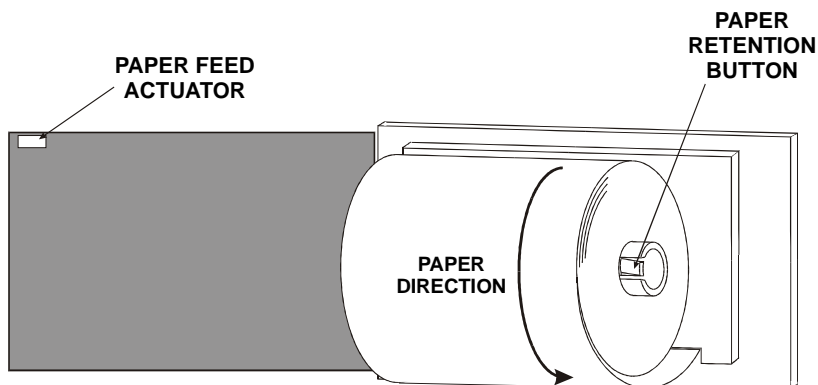

Figure A-1. Replacing the Printer Paper
2. Swing the printer door open. The printer paper roll is mounted on the inside of the door (see Figure A-1).
6. Slide the new paper roll onto the spindle and past the retaining button. The paper must unspool in a counterclockwise direction as shown in Figure A-1.
7. Insert the free end of the paper into the paper feed mechanism. Press the paper feed actuator (see Figure A-1) until the paper feed mechanism grips the paper and pulls it through to the front of the printer.